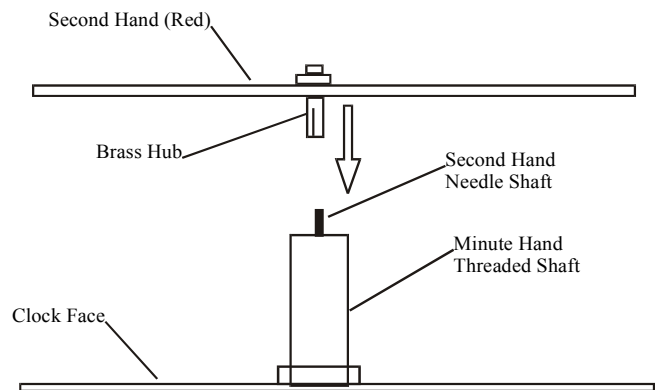

Figure 1
3. Mount the new Second Hand Assembly onto the needle shaft located at the center of the exposed motor shaft. Slide the hub over the needle using light pressure. The hub should not be forced all the way down or the hand may not turn properly. **See Figure 1**